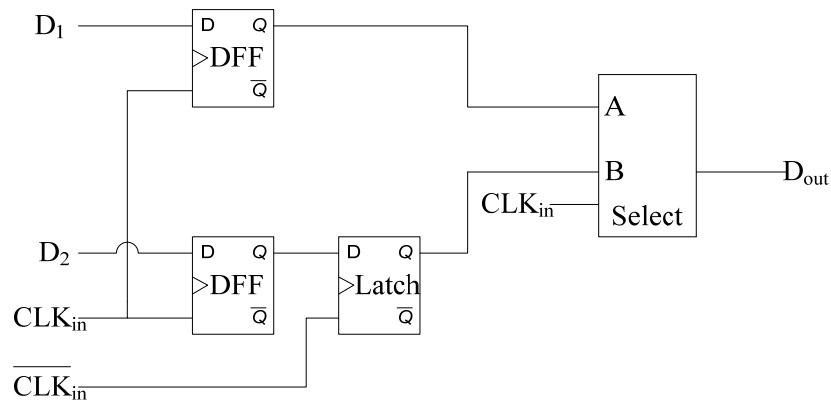

Figure 11 2:1 Data MUX [4]
- A multiplexer (MUX) is often used to serialize parallel low speed data into one single stream of high speed data. It can be implemented before the transmitter output driver stage. Design a 4:1 MUX that serializes 4 parallel 2.5Gb/s data into a 10Gb/s bit-stream. Figure 11 is an example of 2:1 MUX with re-timer (please refer to [4] as a reference).